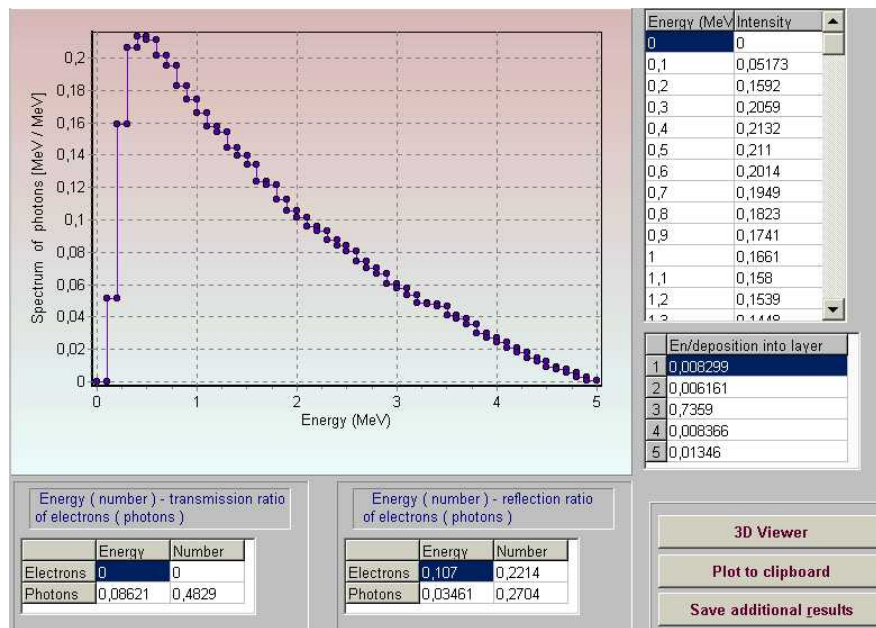

Fig.5.3. X-ray spectrum generated with 5 MeV electron beam in Tangsten converter. The X-ray yield in the forward direction for 5 MeV electron is 8.62%.
- The form with X-ray spectrum generated with 5 MeV electron beam in Tantalum converter (see Fig.3.2) in graphical and tabular form will be opened (see Fig.5.3).